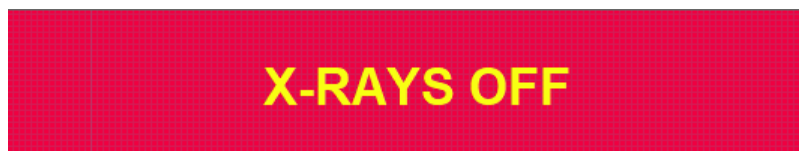

Figure 8. X-Ray OFF status window.
10. The source ramps down, and a window with the message 'X-RAY OFF' is displayed on the screen (Figure 8). The red light on top of the lead box turns off.